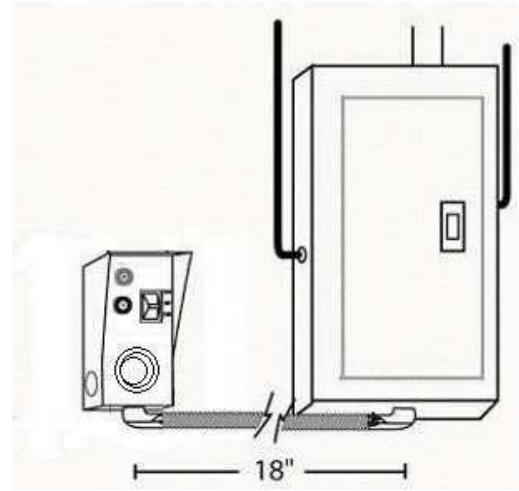

Figure 2
2. Position the *Easy/Tran TF* so that its bottom center is about 18 inches from the bottom center of your load center. The end of the flexible conduit whip should be lined up with a 1/2" knockout hole on the bottom of your load center (Figure 2).